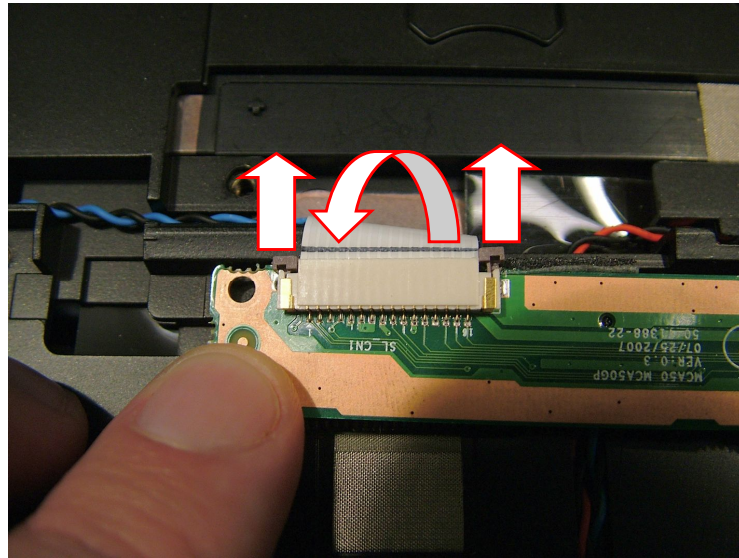

Fig. 19 Releasing button board flat cable.
4. Disconnect the flat cable from the button board (see Fig. 19).